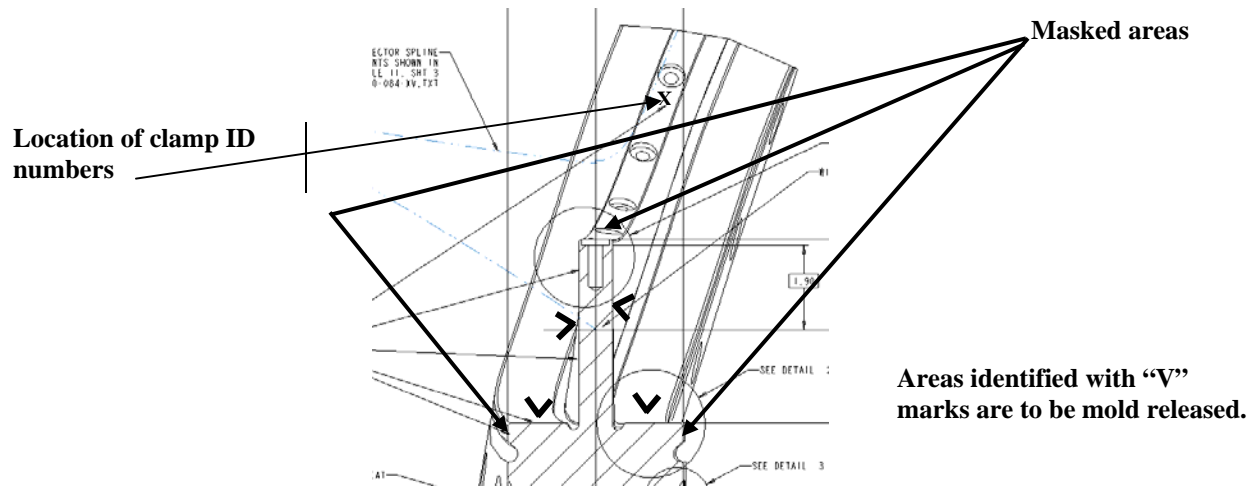

Figure 22- Mold Release and Masked Surfaces
- Verify that the winding form vendor has properly identified the clamp locations on top of the septum next to the tapped holes. The clamp location numbers will be provided on the appropriate coil winding form drawings. See Figure 22- Mold Release and Masked Surfaces
Mask the surfaces identified in Figure 9 with masking tape. Apply (3) coats of mold release ("Miller-Stephenson"-PTFE MS122DF) to the winding surfaces. Allow each coat to dry to the touch prior to applying the next coat. Figure 22- Mold Release and Masked Surfaces identifies the surfaces to be coated and masked.